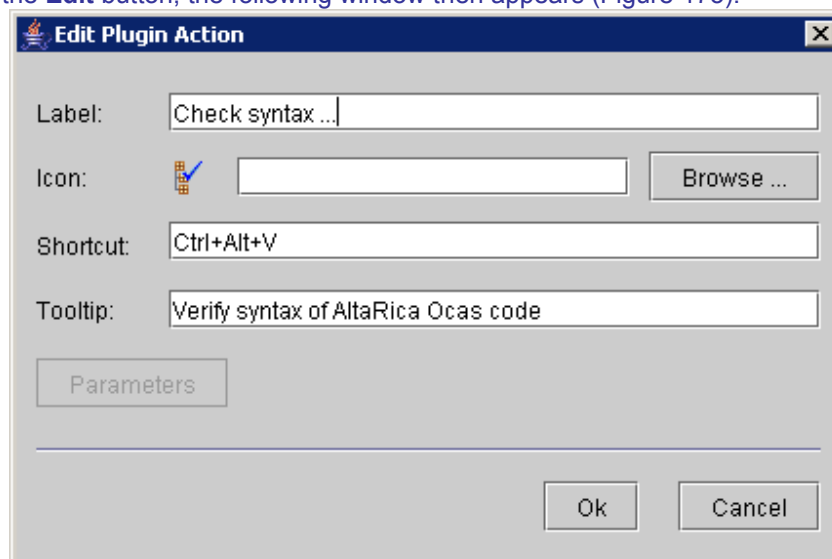

Figure 173 : Edit a plugin action
- Click on the **Edit** button; the following window then appears (Figure 173):